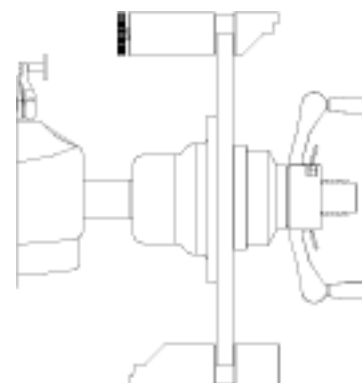

Figure 3-20
3. Screw the 100gram (3.5oz) weight on the left side of the Pruefroter (Figure 3-20) and lower the wheel guard to begin the measuring run. After the shaft comes to a stop the display will change to "4".